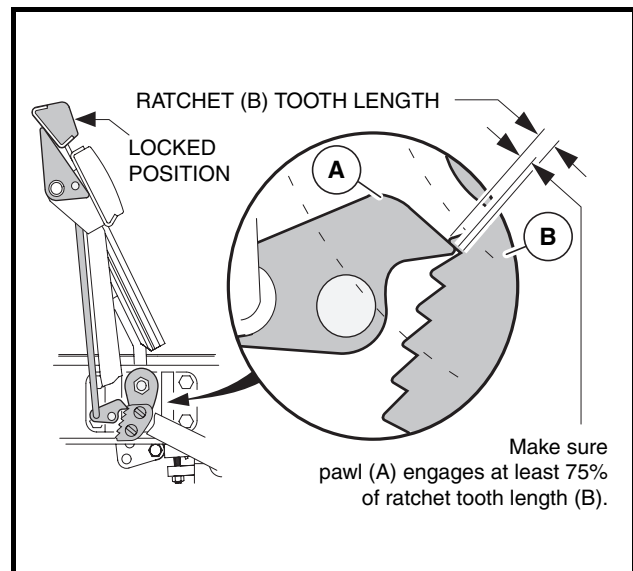

Figure 5-15 Ratchet/Pawl Tooth Engagement
- 4.4. With the park brake locked, make sure at least 75% of ratchet tooth length engages the pawl (**Figure 5-15, Page 5-13**). Tooth engagement should be between the two lines marked on the pawl.